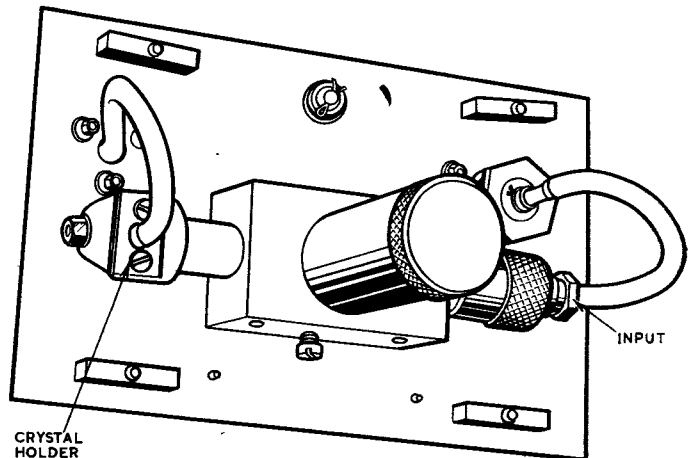

Fig. 15. Wavemeter Type W.1633 : rear view
(1) If the wavemeter is insensitive, replace the crystal. Fig. 15 shows the position of the crystal holder. To measure the back-to-front resistance ratio there is no need to remove the crystal. The ratio measured on the 100,000 ohms scale of the Avometer should be greater than 10 : 1.
(2) If SET IND. has no effect, the following voltage checks may be useful. V5 cathode should be 90-110 volts. The anode volts of V2 and V4 should vary over the same range as V5 cathode as SET IND. is rotated. If V2 is not following, check V1 and V2. If V4 is not following, check V3, C5, C4, R10 and C3.
(3) If the magic eye is not working, check the supply voltages including heater volts and connections. The HT on C7 should be 360/400 volts and on C6, 320/360 volts.